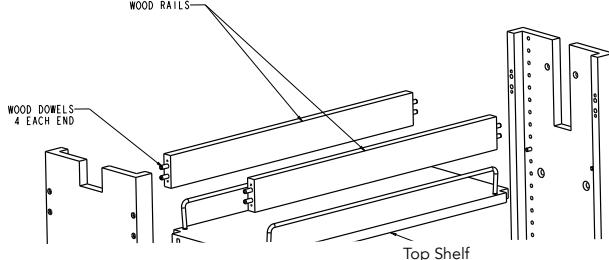

FIG. 3
Attach the front and back panels using (12) #8 x 2 wood screws with (4) #8 flat washers and (4) #8 x 1 pan head wood screws with washers (See Fig. 3).